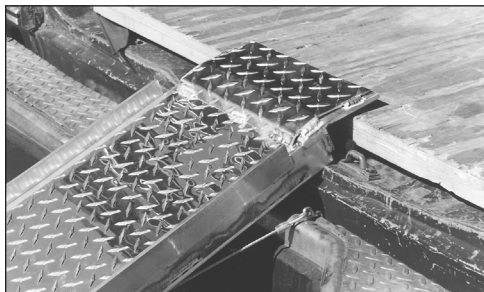

FIG. 1
1. Position ramp securely to back of vehicle (Figure 1).